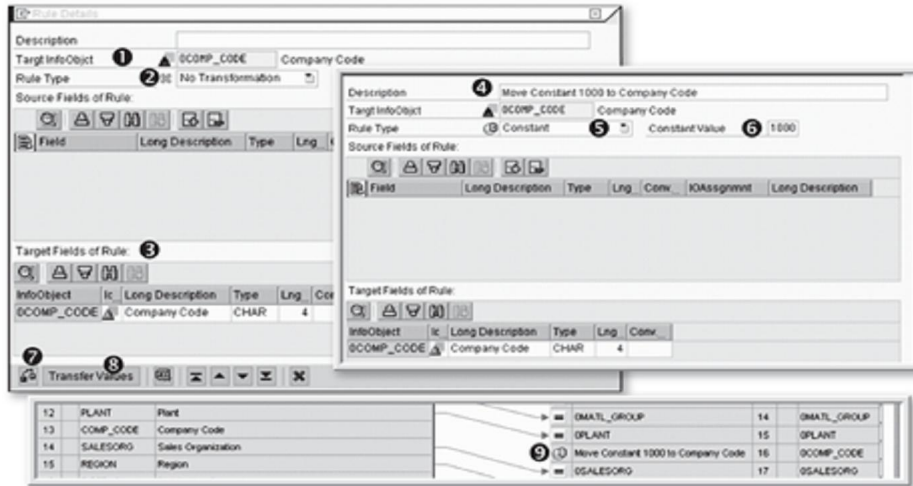

Figure 7.57 Creating a Constant Transformation
This action results in the Rule Details screen shown in Figure 7.57. As you can see, the target InfoObject is shown as OCOMP_CODE. Because we've deleted the transformation rule in the previous step, the Rule Type field lists No Transformation (❷).
Normally, transformations have only one target field (as shown in ③ of Figure 7.57). There may, however, be a situation where you can have more than one, such as when doing unit or currency translations for key figures.
Give a proper description for the transformation type, as shown in ④ Figure 7.57. Use the dropdown available for the rule type, and select Constant (⑤). You can now enter the value for the company code (⑥).
Check your transformation by clicking the Check icon (⑦), and then click Transfer Values (⑧) to transfer the rule change to your transformation. As shown in ⑨ of Figure 7.57, a new rule is now available (⑨).